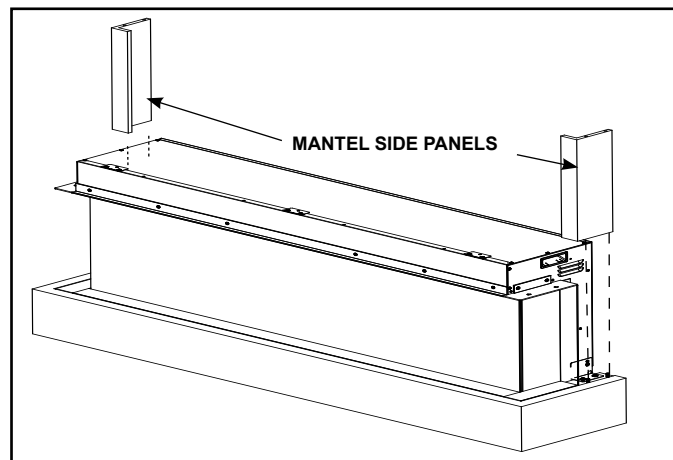

Figure 16
8. Attach the mantel side panels to the bottom mantel by aligning the holes in the mantel sides with the dowels. See Figure 16.